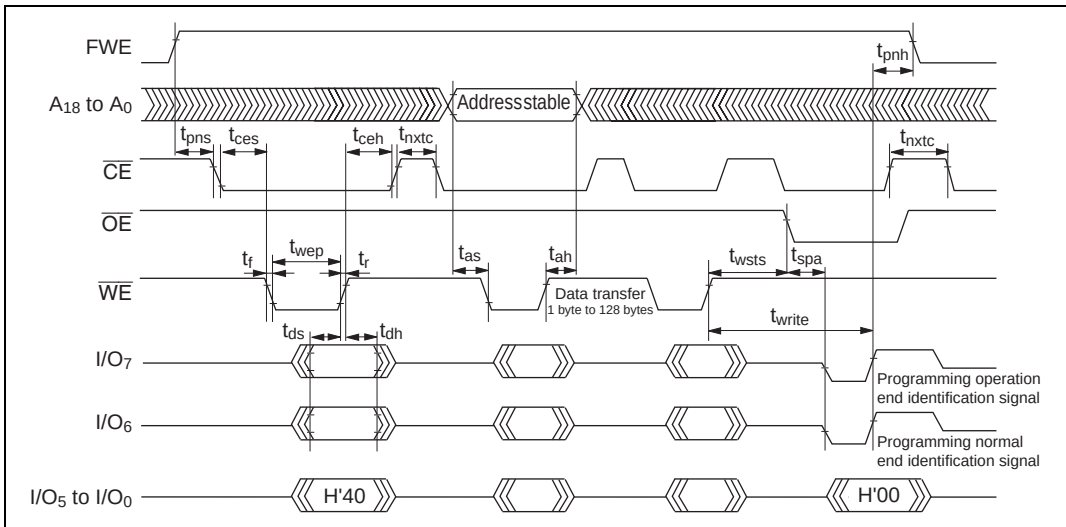

**Figure 17.26 Auto-Program Mode Timing Waveforms**
- Memory address transfer is executed in the second cycle (figure 17.26). Do not perform transfer later than the second cycle.